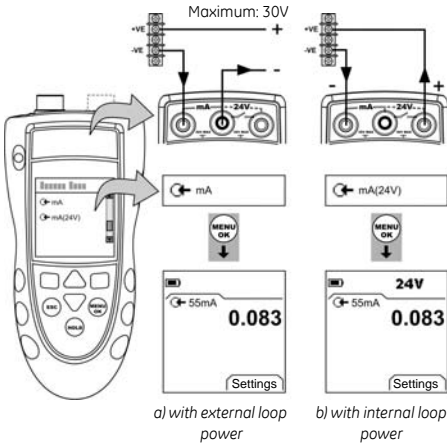

Figure 7: Example configuration - mA measurement
1. Connect the instrument (Figure 7) and, if necessary, adjust the Set Up (Table 1).
1. DPI 802/802P only. Connect the instrument to the calibration equipment (Figure 7).